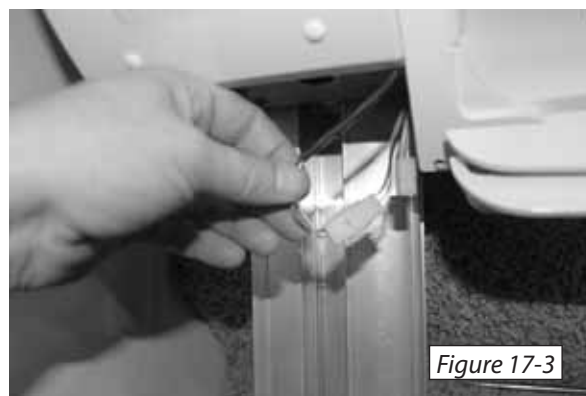

Figure 17-3
5. Plug the 3-pin wire connector from the seat into the mating connector from the chassis. *[Figure 17-3]*